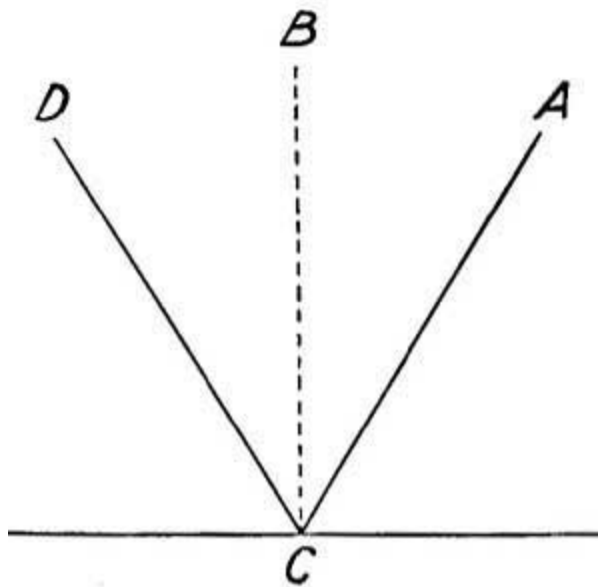

FIG. 60.—The ray AC is reflected as CD .
If a mirror is held so that a ray of light strikes it in a perpendicular direction, the light is reflected backward along the path by which it came. If, however, the light makes an angle with the mirror, its direction is changed, and it leaves the mirror along a new path. By observation we learn that when a beam strikes the mirror and makes an angle of 30° with the perpendicular, the beam is reflected in such a way that its new path also makes an angle of 30° with the perpendicular. If the sunbeam strikes the mirror at an angle of 32° with the perpendicular, the path of the reflected ray also makes an angle of 32° with the perpendicular. The ray (AC , Fig. 60) which falls upon the mirror is called the incident ray, and the angle which the incident ray (AC) makes with the perpendicular (BC) to the mirror, at the point where the ray